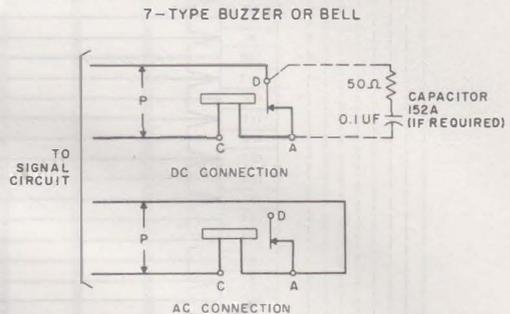

Fig. 27—AC and DC Connections
6.05 Connect 7-type buzzers or bells as shown in Fig. 27.
6.06 Where radio frequency induction is caused by a sparking buzzer or bell contact, operating power should be ac and connections should be to the ac terminals. A 152A capacitor should be used across buzzer contacts when power supply is dc (Fig. 27).